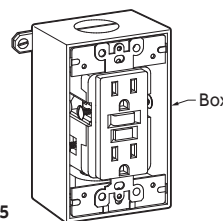

Figure 5
5. Push all wiring into the outlet box. Then attach the receptacle to the box installing the screws provided through the elongated slots (Figure 5).